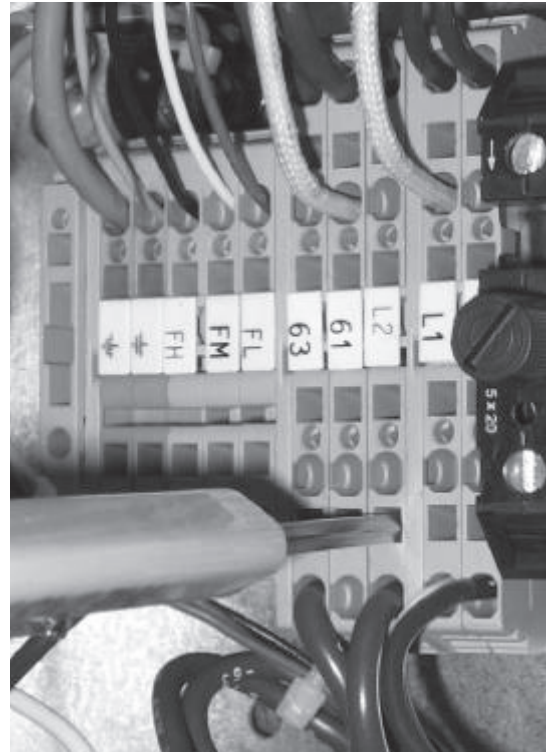

Fig. 31 — Terminal Strip
1. Push a small flat-head screwdriver into the square hole on the terminal. Press firmly until the screwdriver hits the back stop and opens the terminal (see Fig. 31).